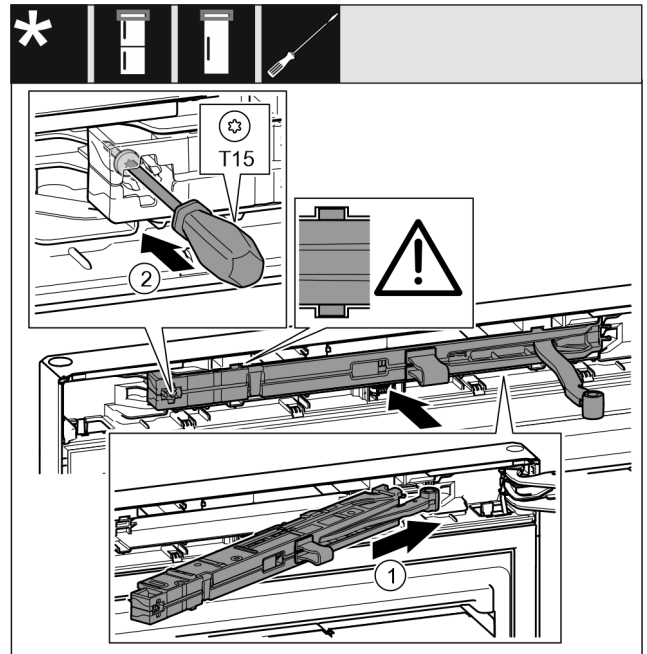

Fig. 19
- Slide the soft stop mechanism on the bearing bracket side at an angle into the recess as far as it will go. Fig. 19 (1)
- Tighten the screw using a T15 screwdriver. Fig. 19 (2)